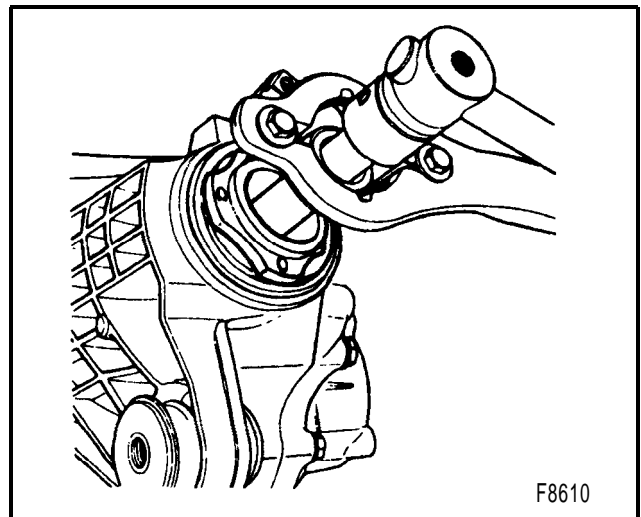
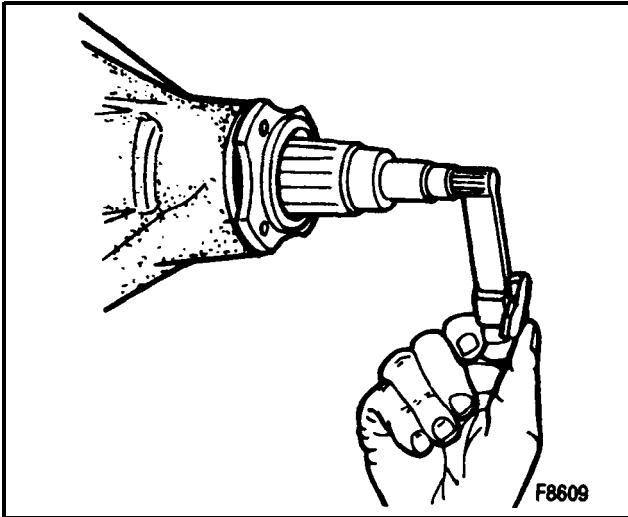
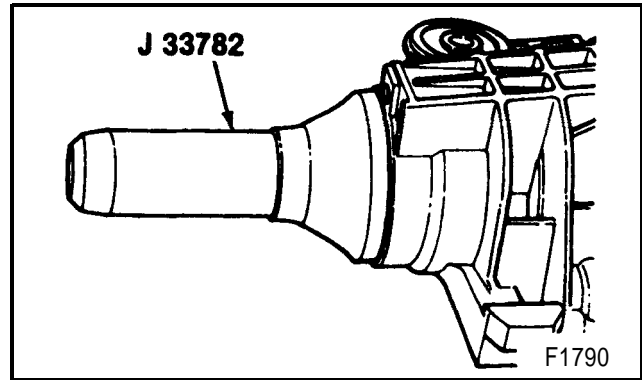

Figure 10 - Removing/Installing the Pinion Nut
Figure 12 - Checking Pinion Preload
Figure 13 - Installing the Pinion Oil Seal
1. Bolts (101) from propeller shaft flange to front axle.
2. Front propeller shaft (100).
- Support the front propeller shaft (100) out of the way.
- Check and record preload with an inch-pound torque wrench (figure 12). This will give combined pinion bearing, seal, carrier bearing, axle bearing and seal preload.
3. Pinion flange nut (46) and washer (45).
- Hold the pinion flange (44) with J 8614-01 (figure 10).
1. Special seal lubricant (Part No. 1051069 or equivalent) to the outside of the pinion flange (44).
2. New pinion flange (44).
3. Washer (45) and nut (46), using J 8614-01 (figure 10).
- Nut (46) a little at a time, turning the pinion flange (44) several times after each tightening to set the rollers. Check the bearing preload each time until preload is 0.3 to 0.6 N•m (3 to 5 in. lbs.) more than the reading recorded during removal (figure 12).
4. Front propeller shaft (100).
5. Bolts (101) to flange.
1. Bolts (101) from the pinion flange (44).
2. Front propeller shaft (100) from the pinion flange (44).
3. Pinion flange nut (46) and washer (45) (figure 10).
- Mark the pinion flange (44), front propeller shaft (100), and the nut (46) so that the proper bearing preload can be maintained.
- Use J 8614-01 to hold the pinion flange (44) (figure 10).
1. New pinion oil seal (42), using J 33782 (figure 13).
2. Special seal lubricant (Part No. 1050169 or equivalent) to the outside of the pinion flange (44) and the sealing lip of the new pinion oil seal (42).
3. Pinion flange (44).
4. Washer (45) and nut (46), using J 8614-01 (figure 10).